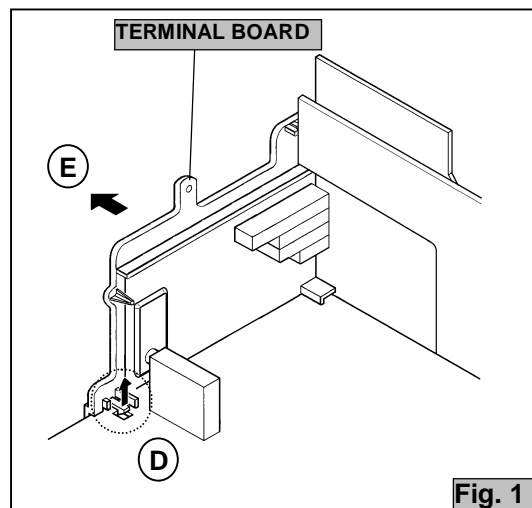

Fig. 1
2. As shown in Fig.1, after removing the claw marked **D** in the direction of arrow mark.
3. When you pull out the TERMINAL BOARD in the direction of arrow marked **E** as shown in Fig.1, it can be removed.
<p>(7) SERVICE MENU setting Verify what to set in the SERVICE MENU, and set whatever is necessary (Fig.1).For setting, refer to the SERVICE ADJUSTMENT.</p>